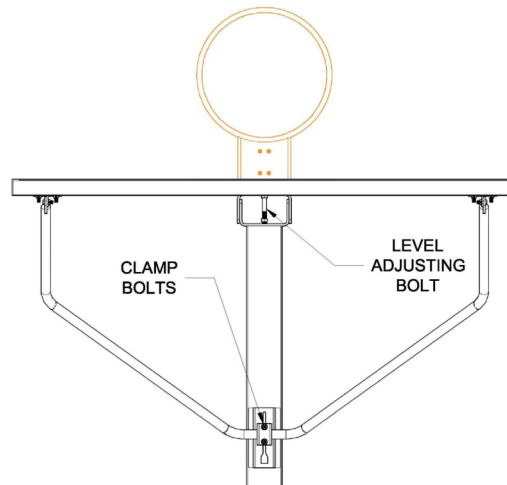

Figure 7
- To level the backboard in the vertical plane, loosen the two carriage bolts at the board brace clamp on top of the boom. Refer to Figure 7. Using a 3/4" wrench, adjust the leveling bolt in the board mounting bracket until the backboard is plumb. Tighten the locking nuts on the leveling bolt. Tighten the two carriage bolts at the brace clamp securely.